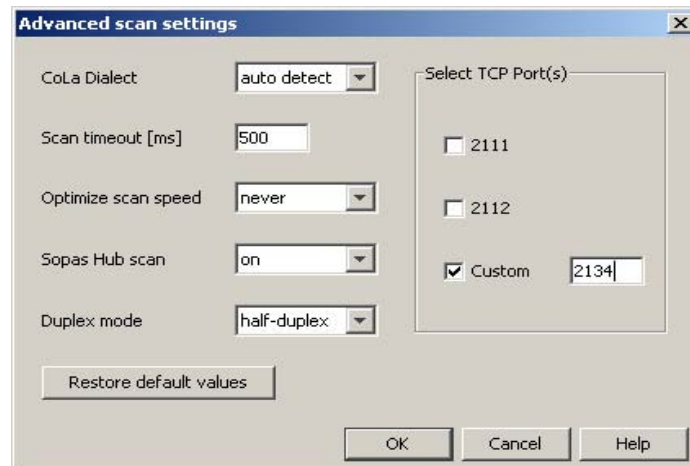

Fig. 4.33: TCP port specification
- ▶ In the dialog “Advanced scan settings”, activate the “Custom” check box in the “Select TCP Port” area on the right hand (see Fig. 4.33).
- ▶ Enter the port address „2134” and confirm with the “OK” button (all other settings are factory settings as in Fig. 4.33).